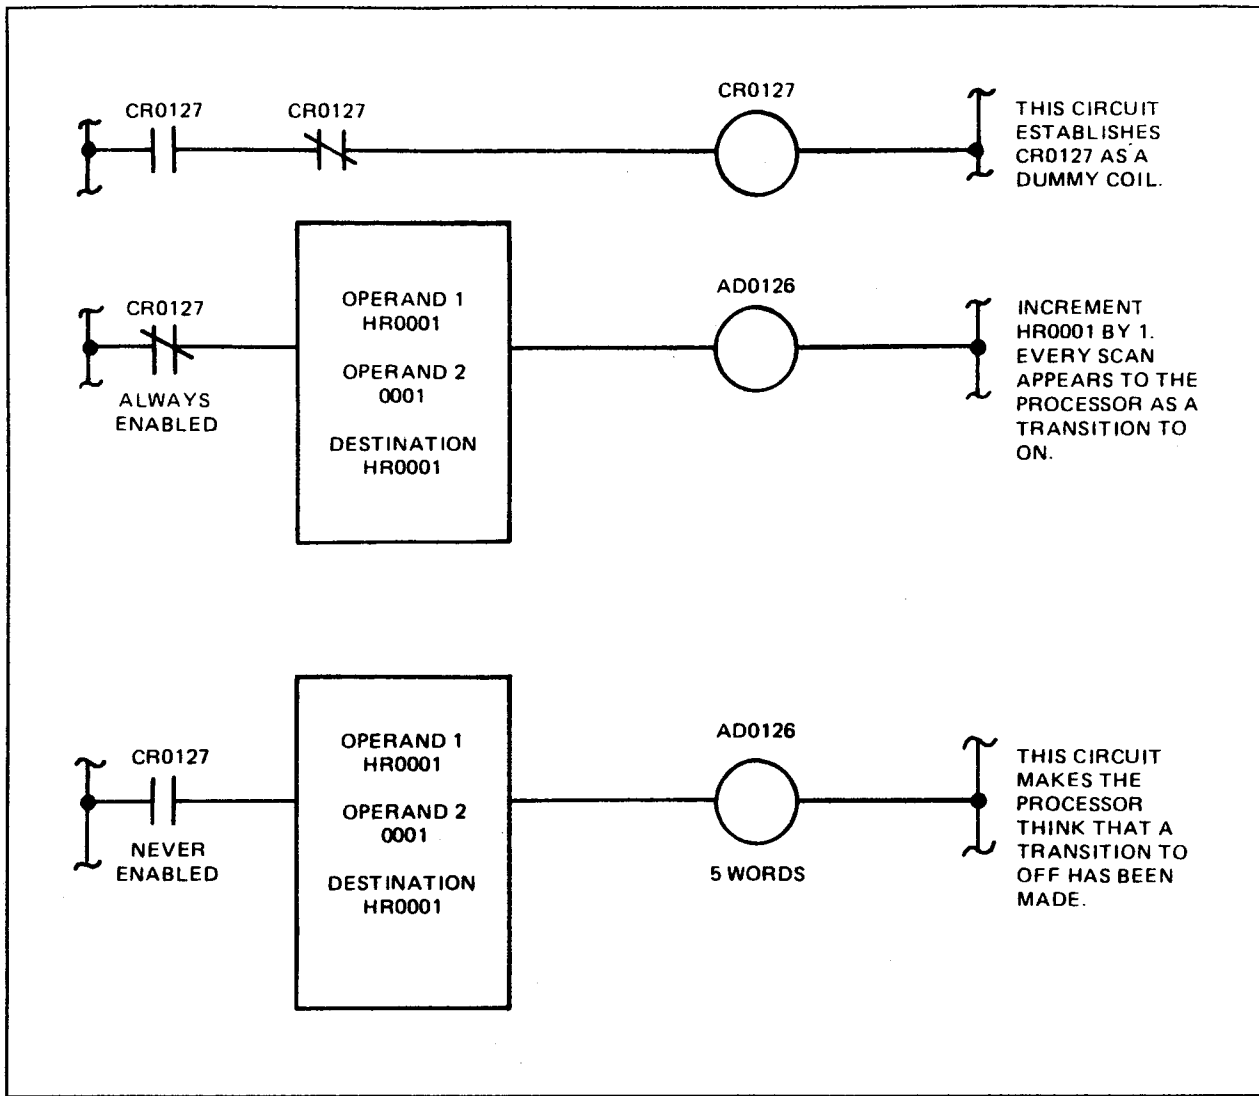

Figure 4-18. Every Scan Operation
In the case of counters and shift registers, transitional operation is a necessary and desired part of the function. However, in the case of the arithmetic and conversion functions, a transitional operation may or may not be desirable. If the controller does not have a Continuous Group Select (CG) function, scanning can be made to occur on a continuous (every scan) basis by using the format illustrated in Figure 4-18. (For additional information, refer to the CG function description).
This form requires only that the second coil be that of a transitional function. In the example shown in Figure 4-18, UC0126 could be used. The assignment of operand and designation is unimportant, since the function is not used. (See Paragraph 4-8 for a discussion of HRRU and register manipulation.)